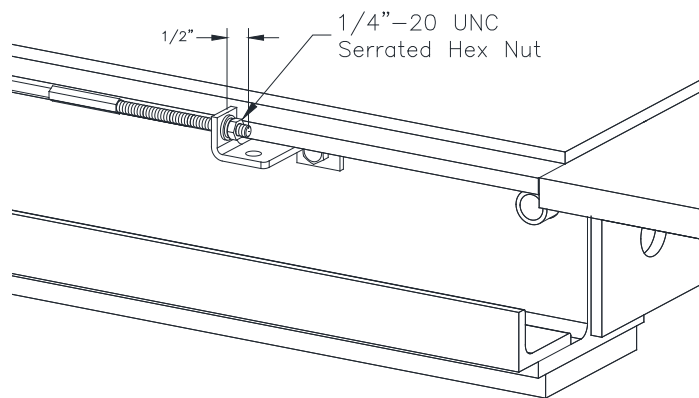

Figure 8
17. Attach threaded end of cable-to-Cable Bracket as shown in **Fig 8**.